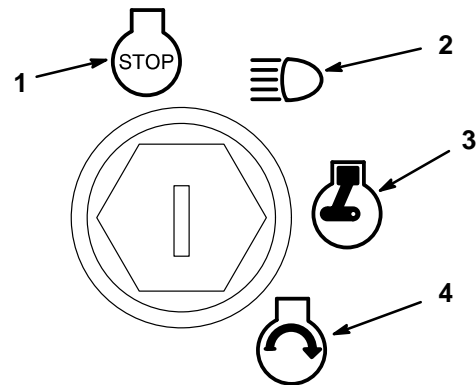

Figure 13
6. Turn the ignition key clockwise and hold it in the START position (Fig. 13). When the engine starts, release the key.
3. Turn the ignition key to “STOP” (Fig. 13).